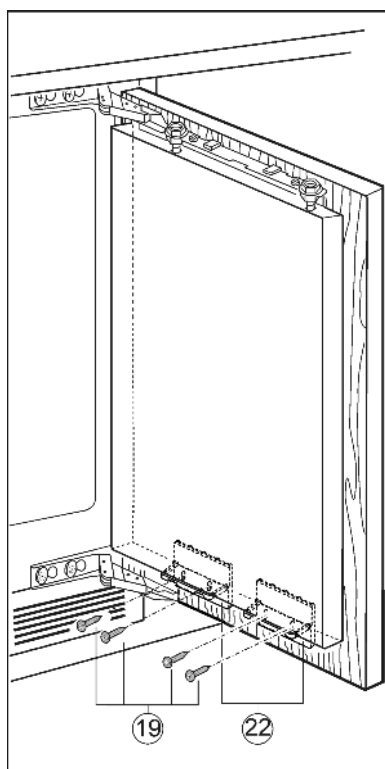

Fig. 19
- ▶ Screw the appliance door to the unit door with screws Fig. 19 (19) passed through the mounting brackets Fig. 19 (22).